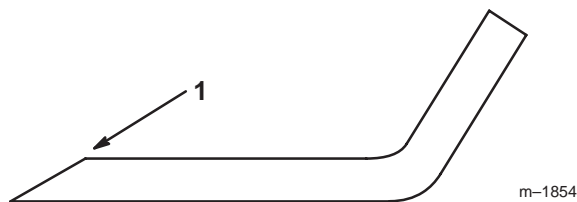

Figure 29
1. Use a file to sharpen the cutting edge at both ends of the blade (Fig. 29). Maintain the original angle. The blade retains its balance if the same amount of material is removed from both cutting edges.